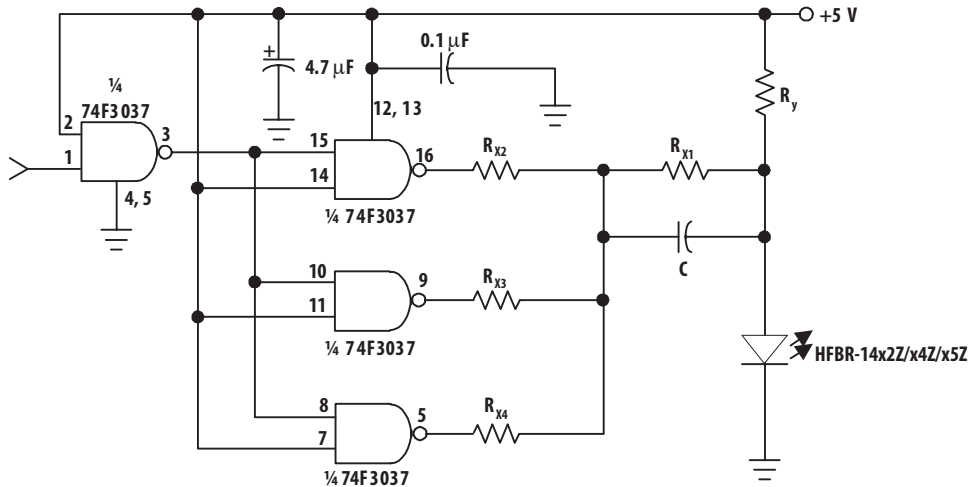

Figure 11. Recommended Drive Circuit
- Pre-bias is recommended if signal rate > 10 MBd, see recommended drive circuit in Figure 11.
The circuit used to supply current to the LED transmitter can significantly influence the optical switching characteristics of the LED. The optical rise/fall times and propagation delays can be improved by using the appropriate circuit techniques. The LED drive circuit shown in Figure 11 uses frequency compensation to reduce the typical rise/fall times of the LED and a small pre-bias voltage to minimize propagation delay differences that cause pulse-